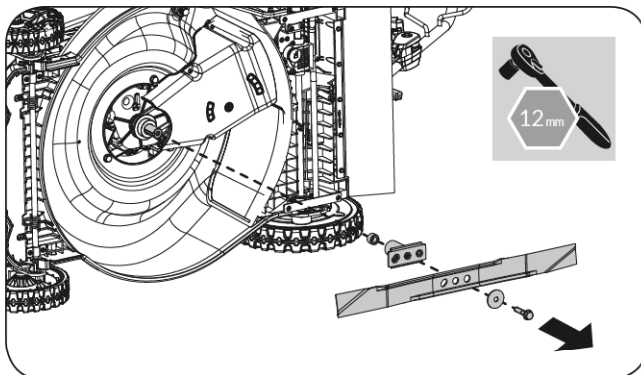

Figure 33
2. Remove the blade. (See **Figure 33**)